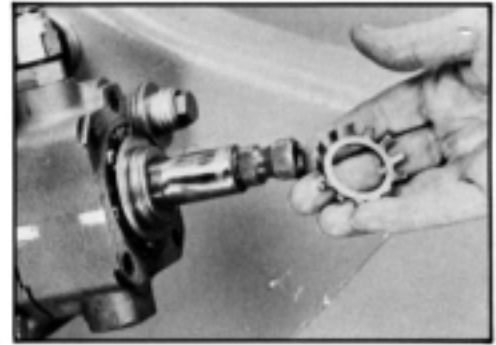

Figure 33
3.8 Assemble a **new** bearing lockwasher (10) onto worm shaft (23) with the internal washer tang in the worm shaft slot and the external tangs facing out. Reassemble bearing lock nut (9), large chamfer side in, onto threaded diameter of worm shaft until components are at solid height (snug). SEE FIGURE 33.